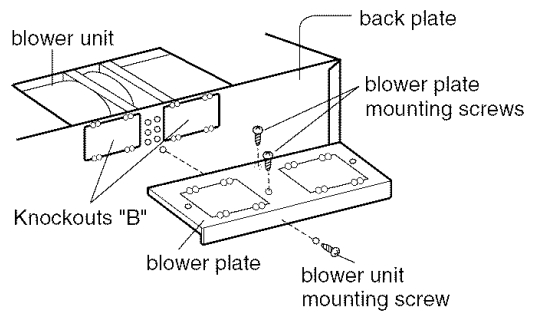

Figure 12
1. Remove one blower unit mounting screw and two blower plate screws. Remove the blower plate from cabinet. See **Figure 12**.